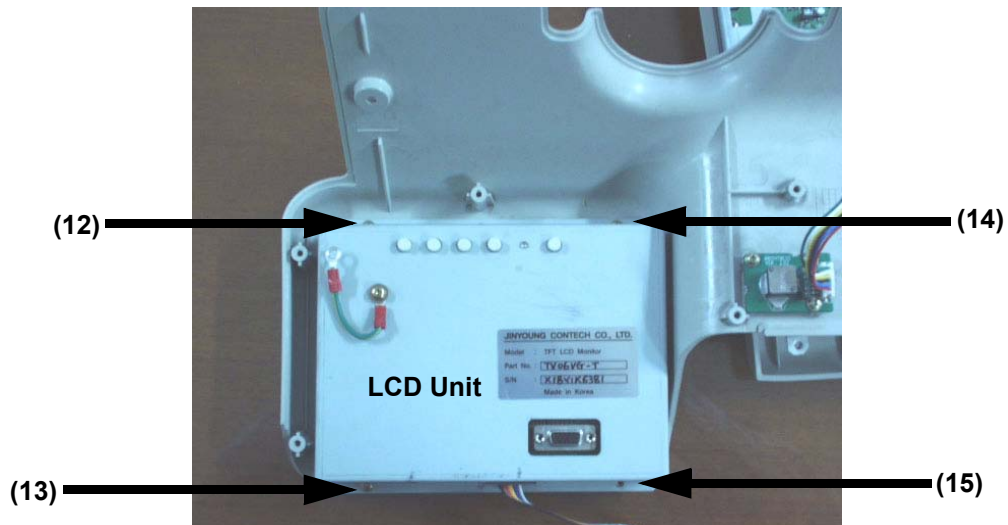

Figure 8-44 Unscrew 4 screws from the LCD unit
- 3.) Unscrew four (4) screws (12-15) from the LCD unit Refer to section Figure 8-44 on page 30..